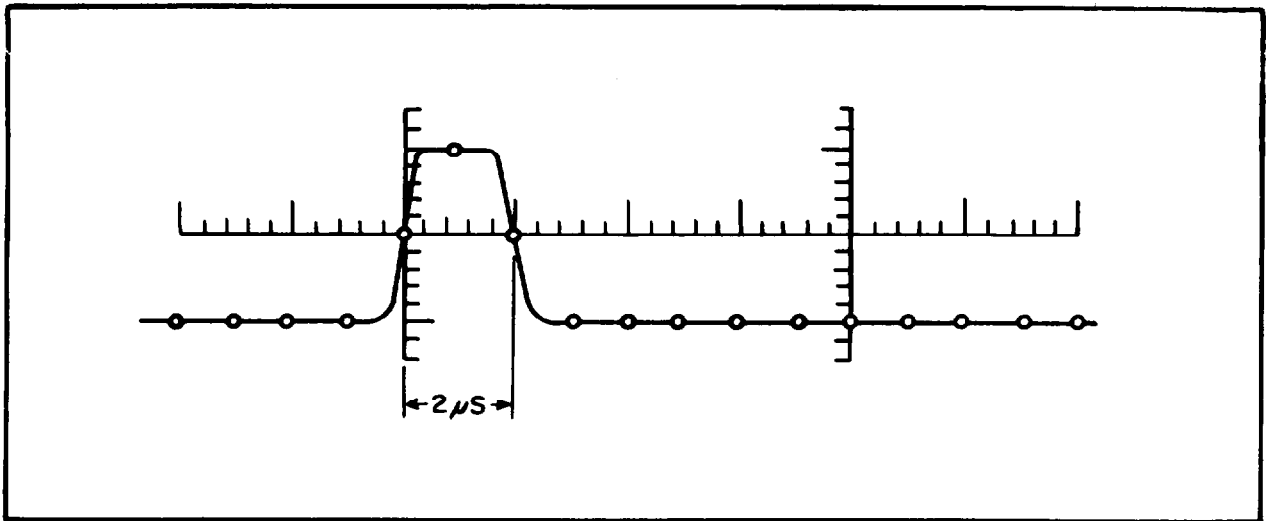

Figure 4-4. Typical Pattern for Measurement of Two-microsecond Pulse
(4) Set SELECTOR SWITCH to ZERO SET and adjust ZERO SET control until METER pointer is on line marked "zero set".
(5) Set SELECTOR SWITCH to CW and adjust POWER SET control to produce a METER reading of + 3 dbm.
(6) Set SELECTOR SWITCH to RATE X 1.
(7) Make necessary adjustments on Oscilloscope TS-239/UP to obtain a sweep approximately 15 microseconds long with markers at 1-microsecond intervals. It will be found convenient to adjust the SWEEP TIME—FINE INCREASE and the HORIZONTAL POSITIONING controls of the oscilloscope so that alternate 1-microsecond markers coincide with major divisions on the illuminated scale. Minor divisions then represent 0.4 microseconds. (see figure 4-4.) The SYNC SELECTOR on the oscilloscope should be set to HI EXT, and the SYNC VOLTAGE control should be on the plus side of center. The MULTIPLIER switch should be set to 1 and the GAIN control (vertical) adjusted to provide an image of the pulse approximately 10 scale divisions high.
(8) Adjust the VERTICAL POSITIONING control of the oscilloscope so that the illuminated horizontal scale line passes through the half-amplitude points on the image of the pulse.